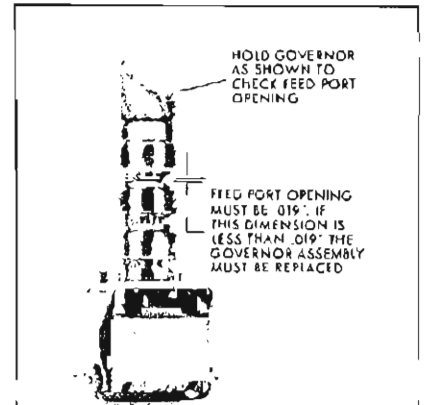

Figure 5-238
2. Check governor feed port opening. See Figure 5-238.